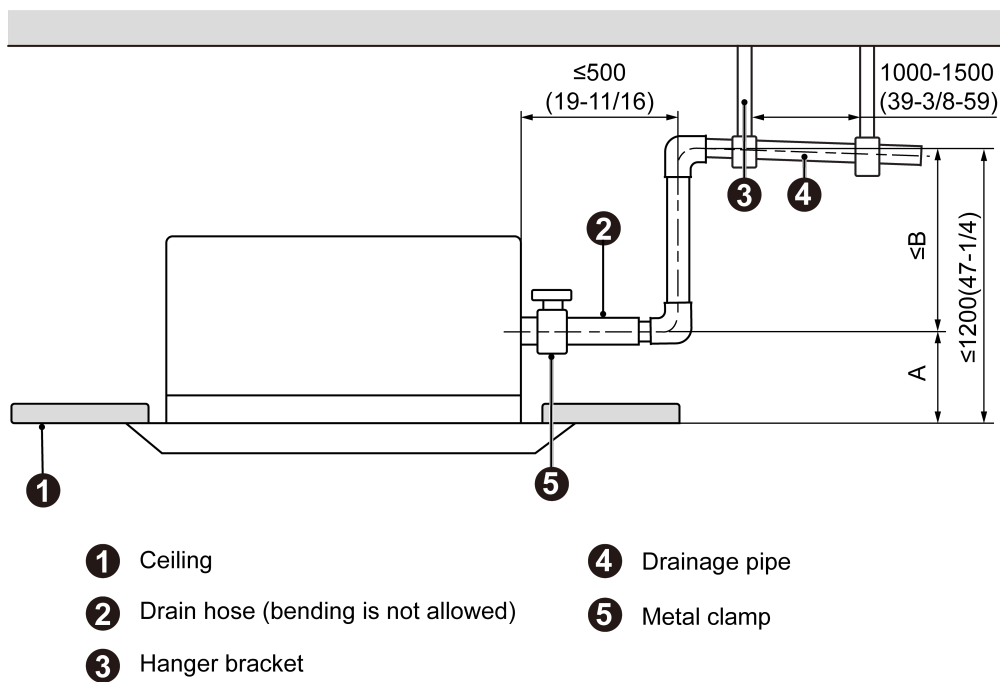

Fig.4.3.3
(8) The installation height of raising pipe for drainage should be lower than B. The gradient from raising pipe towards drainage direction should be at least 1%~2%. If the raising pipe is vertical with the unit, the raising height should be less than C, as shown in Fig.4.3.3.